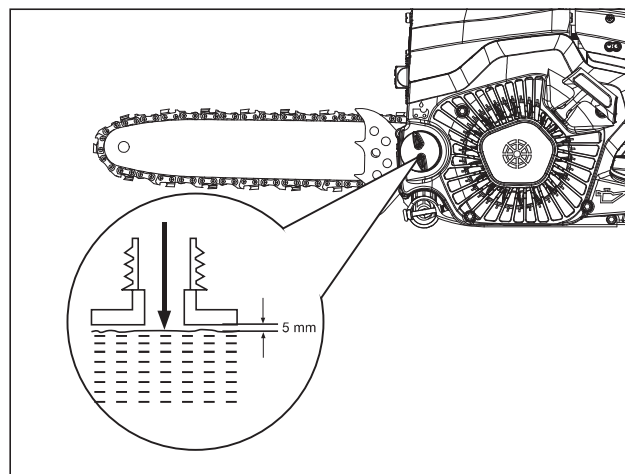

Fig. 4
3. Do not overfill and leave approx. 0.20in.(5 mm) space between the top of the oil and the inside edge of the tank to allow for expansion(Fig. 4).